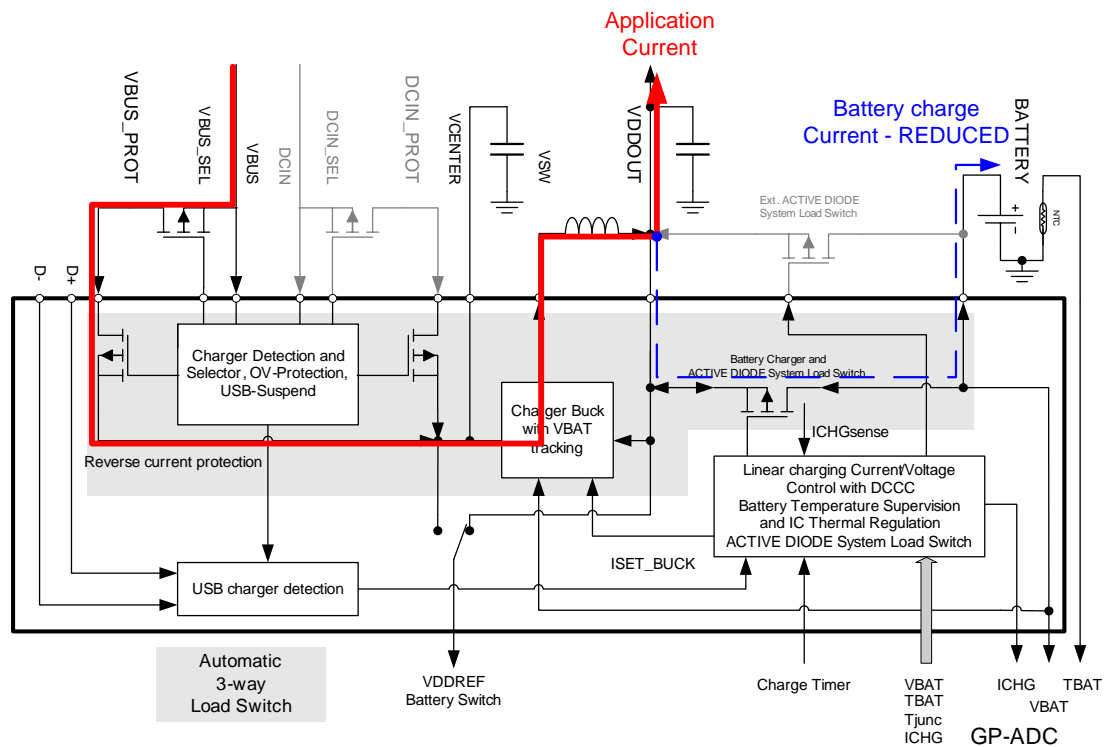

Figure 10: Current path from valid USB according to state B.
- B. If the combined load exceeds the input current limit I_{SET_BUCK} , the linear charger stage automatically reduces the battery charge current to keep supplying the required system power. This is realised by reducing V_{DDOUT} down to V_{BAT} , which consequently reduces the charging current. It is then possible to charge the battery with any surplus current that is not required by the application (see Figure 10).